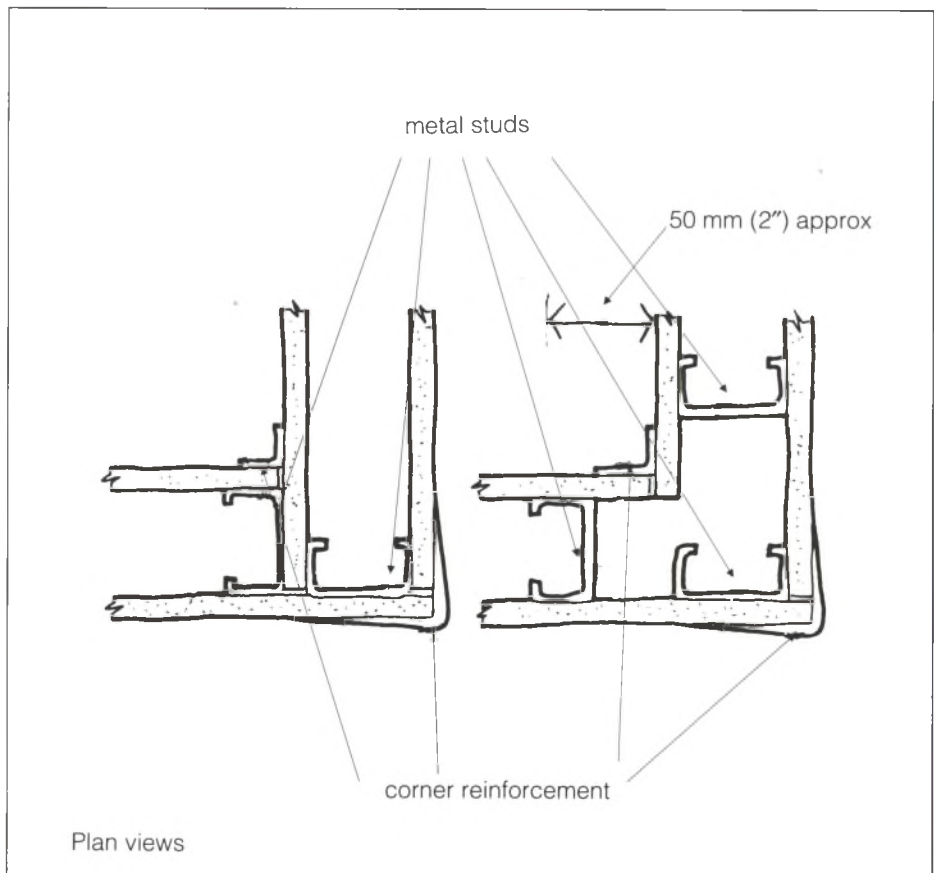

Fig. 18. Interior corners with metal studs
- With metal studs, run drywall from the interior of the corners through to the outside face (*fig. 18*).